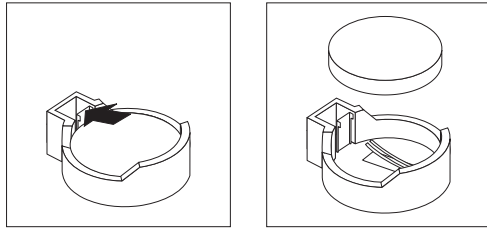

Figure 10. Releasing the battery
- a. Use one finger to press the top of the battery clip away from the battery until the battery releases upward from the socket as shown in Figure 10 on page 108.